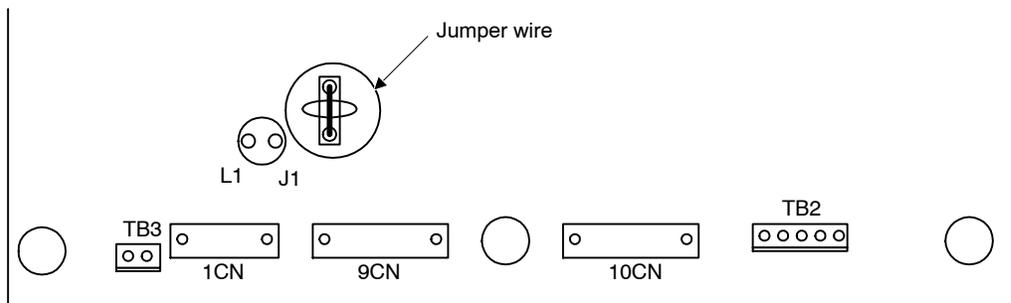

Fig 7.10 Jumper Wire Mounting Location on Control Board
- When supplying a voltage input to the frequency reference current input (terminal 39) (a setting of 0 or 1), be sure to disconnect jumper wire J1 on the control board. (See *Figure 7.10*.) If the jumper wire isn't disconnected, the input resistor will be destroyed.